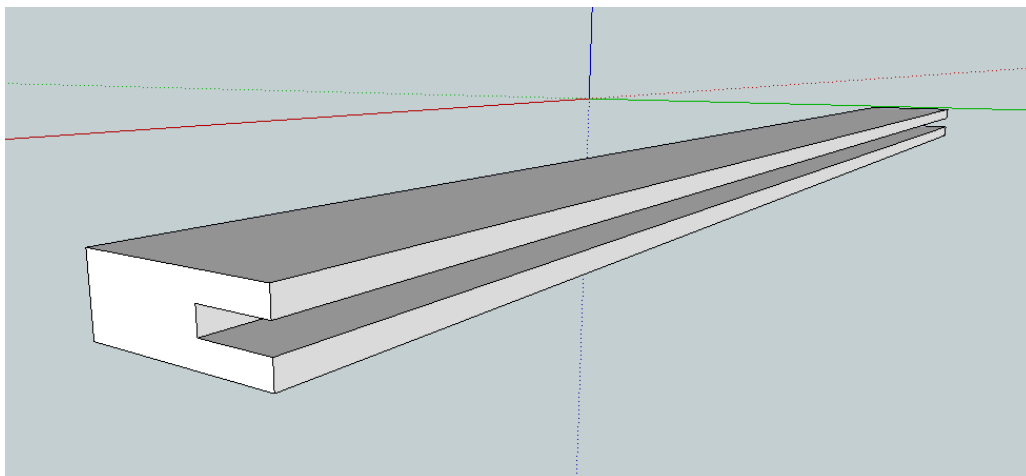

Figure 12: Door Stile with Groove
1. Add a 3/4" deep groove in the center of the edge on **both** the door rail and stiles as seen in Figure 12.